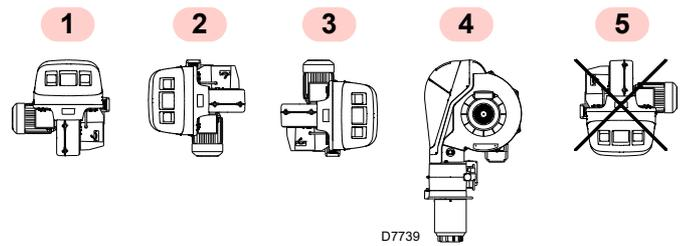

Fig. 13
- the category of the appliance/countries of destination (I).
- The burner is designed to operate only in positions 1, 2, 3 and 4 (Fig. 13).